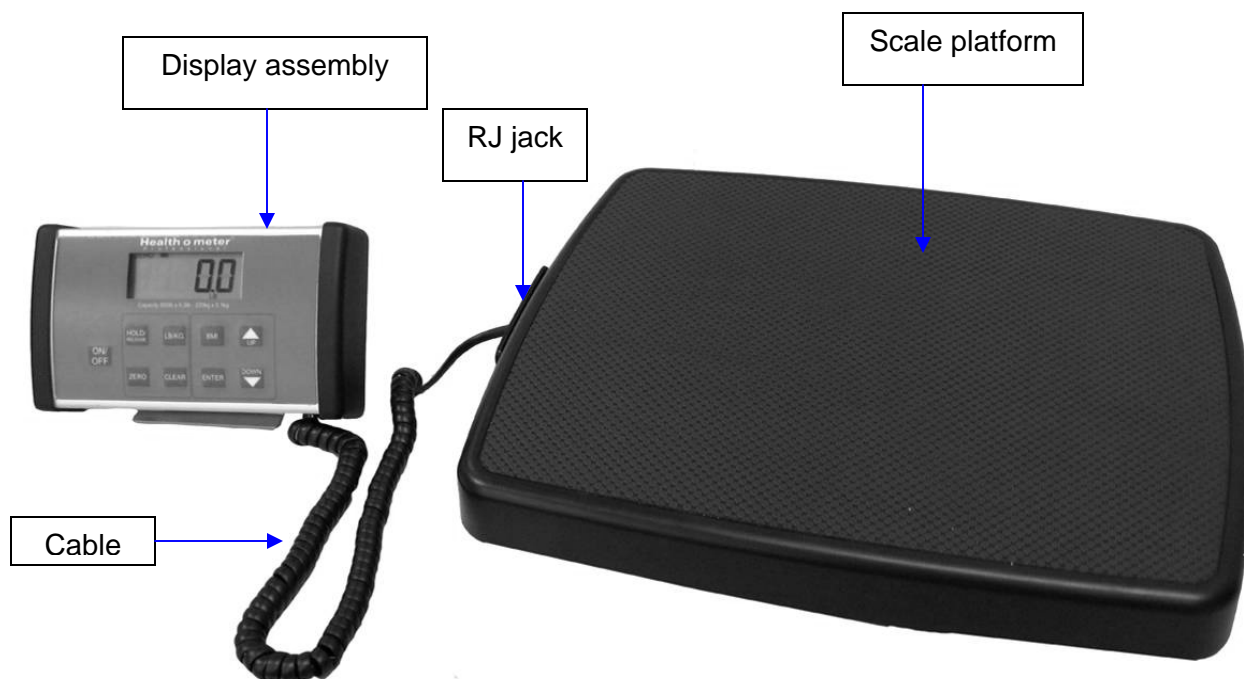

Figure 3
1. Carefully remove the scale platform with the display assembly from the carton, and place the scale platform and display assembly on a flat, level, and dry surface (see Figure 3).